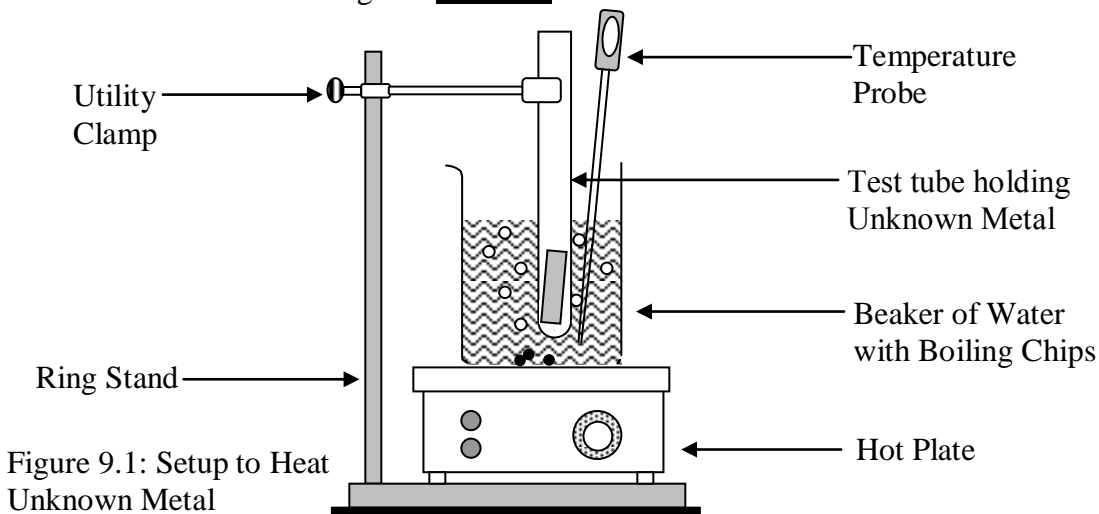

Figure 9.1: Setup to Heat Unknown Metal
5. Attach the clamp onto a ring stand and lower the test tube into the water being heated (See Figure 9.1). The portion containing the metal should be surrounded by water. You do not have to wait for the water to boil before placing the test tube in the water. Do it as soon as you can so that the temperature of the test tube and the metal can begin equilibrating with that of the hot water.